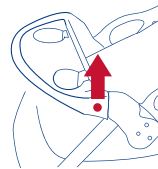

Fig. 10c
• **To access the child seat:** Press inward on left side tray release button and rotate upward on the tray (Fig. 10c).